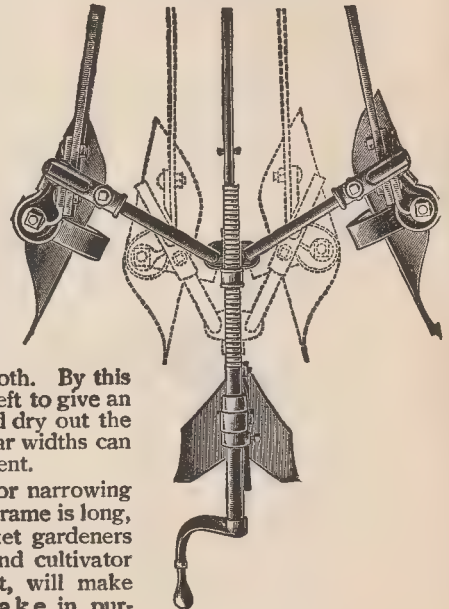

Fig. 166
**The Screw Expander.**—It is true the screw expander (more plainly shown in Fig. 166) can-not be changed as rapidly as the lever expander, as shown applied to our No. 6 Iron Age Horse Hoes, yet the rigidity is the same at any and every point from the widest expansion, 28 inches, to its narrowest, or to a point where the standards come together and make the hilling blades practically a double mold-board plow, in which position it is used largely for opening furrows. There is no width at which the side bars may be set but that they will be held rigid and even without the slightest tendency to close up when the gangs are closed in for very narrow work. By reason of the fact that the change in width is made by a screw instead of a lever hav-ing a pawl to engage in a rack of a certain number of notches, it does not require a certain amount of change to hold it securely, but a very slight change may be made.
In Fig. 166 we plainly show the set screw in the casting connected with the side bar, which is designed for the purpose of giving adjustment to the connecting rods of this expander, thus adapting it for the cultivation of either wide or narrow rows and yet all the time obtaining the same rigidity. Further-more, this same set screw allows for the setting of one side bar in or out further than the other. In cultivating growing crops, in going twice to the row, it is often desired to set the right hand side bar in, so the outside tooth running next to the crop will not leave a furrow, but it will be filled up by the rear tooth. By this plan the crop will not be endangered by a furrow having been left to give an opportunity for the sun and wind to absorb the moisture and dry out the rootlets. The setting of the side bars at irregular widths can not be accomplished by an ordinary lever adjustment.